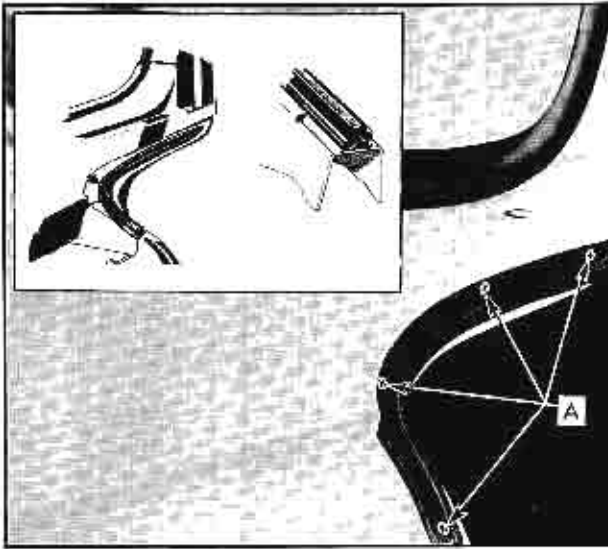

Fig. 3-51 Cowl Side to Door Weatherstrip Installation
1. Remove four screws, indicated in Fig. 3-51; break seal between weatherstrip and cowl and remove weatherstrip.
2. To install, clean original sealer from cowl and apply a ribbon of medium-bodied sealer as indicated in insert, Figure 3-51. Install screws and clean off excessive sealer.